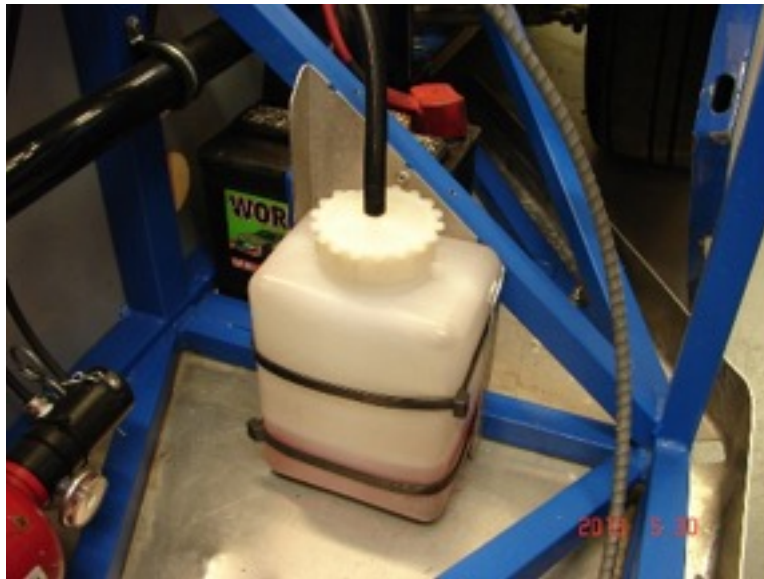

Figure 8 – Coolant Catch Tank (New Location)
23. Remove coolant catch tank and bracket; Cut about .625" of the height of the bracket (or along center of the rivet holes), reinstall on front of RH side pod at former ECU mount with the supplied 3/16" rivets (Part # 1002000). (See Figure 8)